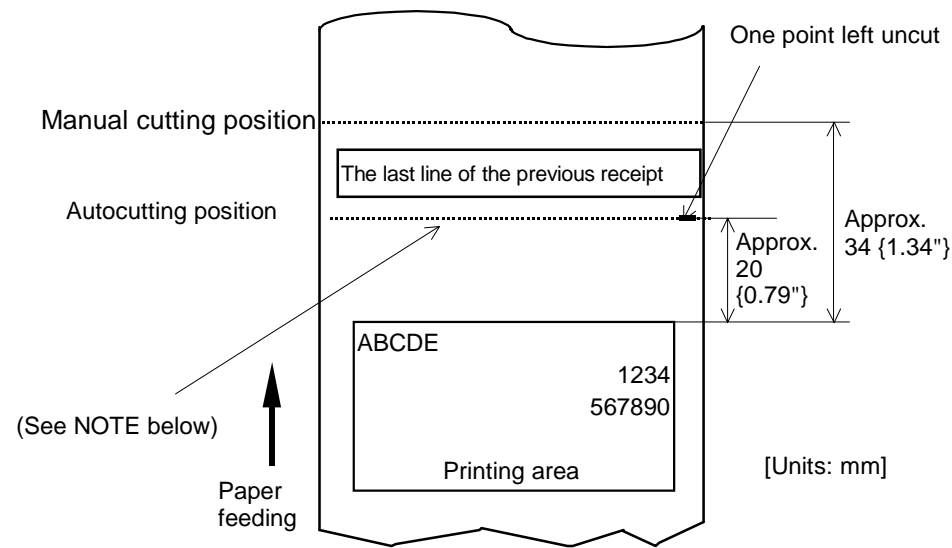

Figure 1.2.2 Printing and Cutting Positions
1) Relationship between the printing and cutting positions. (Refer to Figure 1.2.2).